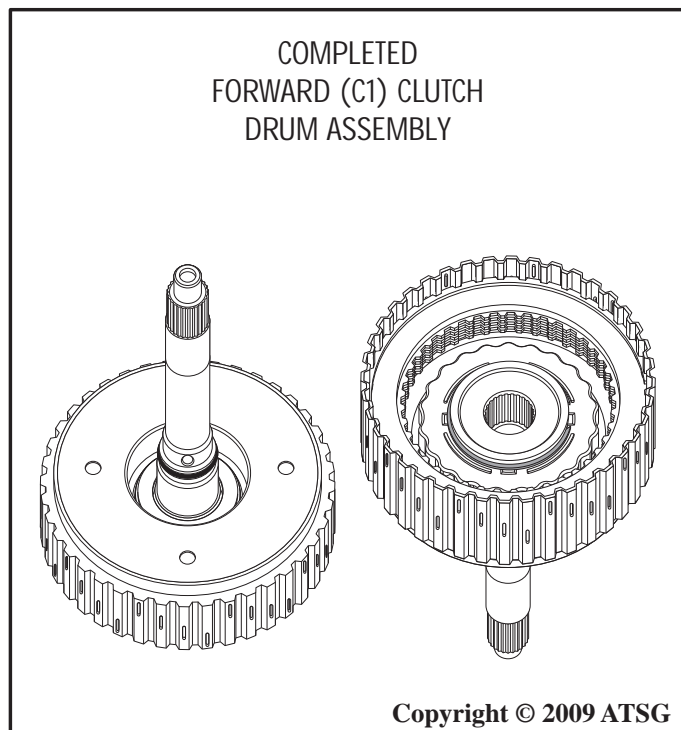

Figure 105
16. Set the forward (C1) clutch drum aside for final assembly as shown in Figure 105.